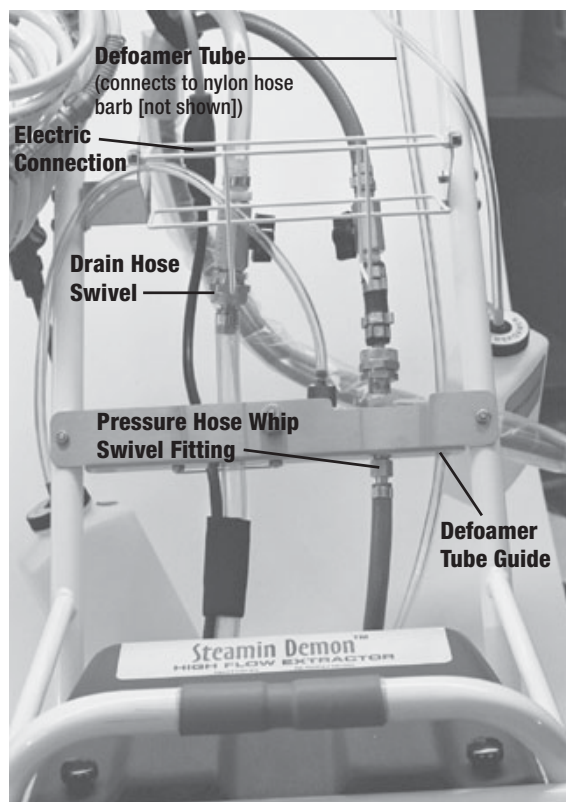
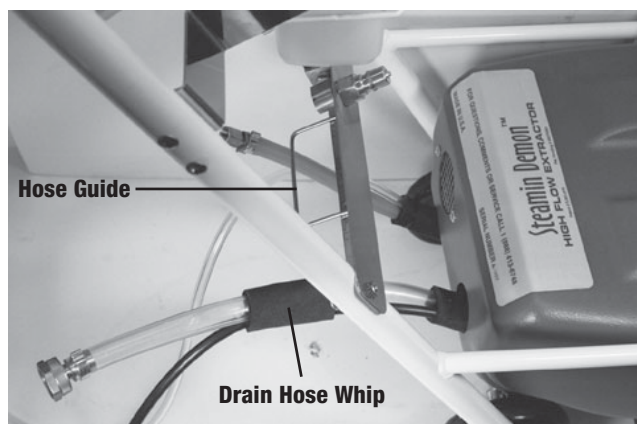

Figure 1
Figure 2
2. Unswivel both pressure hose whip swivel fitting and drain hose swivel (fig. 1). Unplug electrical connection and pull defoamer tube off nylon hose barb fitting under control panel (fig. 1).
3. Pull drain hose whip through the hose guide (fig. 2). Pull defoamer tube through its hose guide (fig. 1).